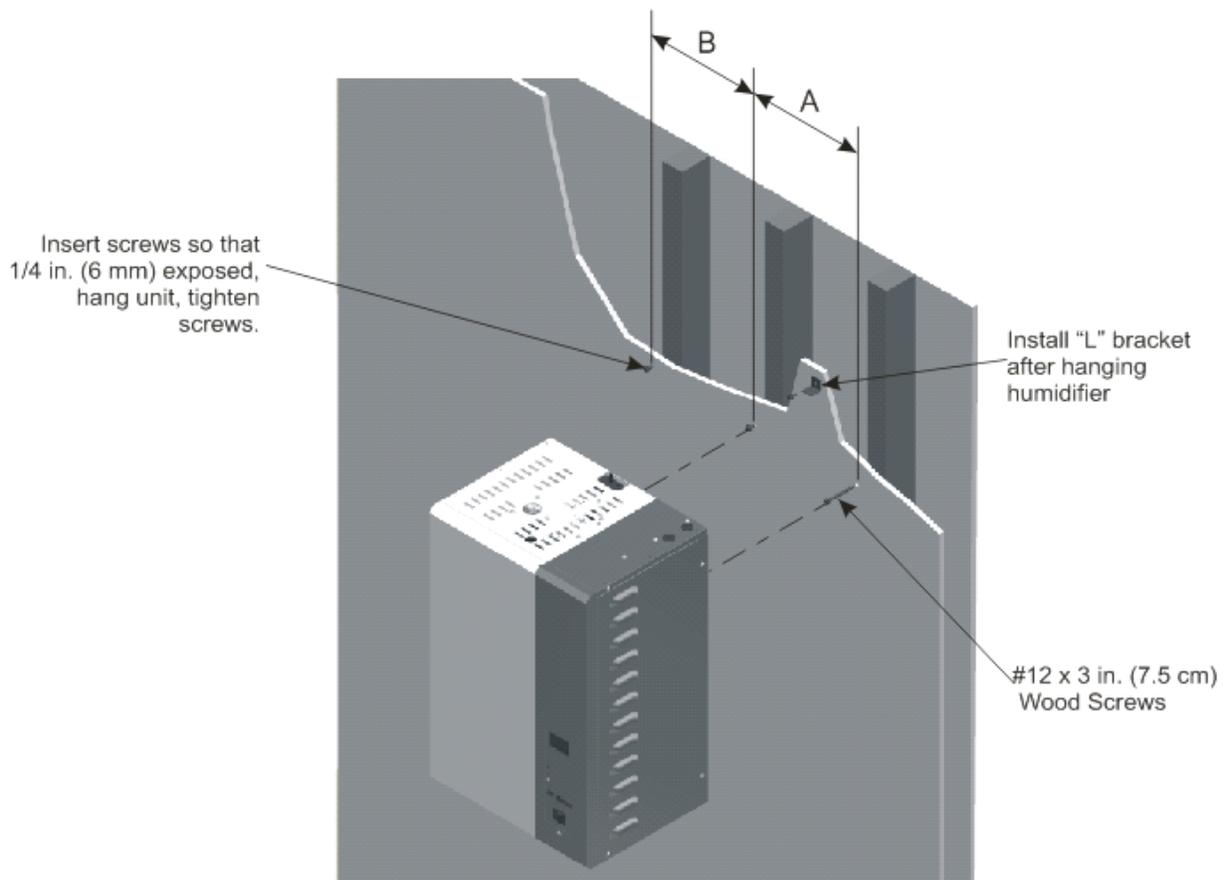

Figure 6: Mounting with Keyholes; A = B = 16" (40.6 cm)
5. Place L-shaped brackets on top of the unit, ensuring the holes are in-line with the studs. Using the appropriate sized wood screw, fasten the L-brackets to the studs, securing the unit from any upwards motion. See Figure 6.